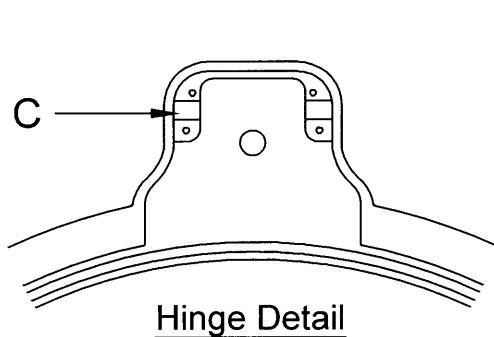

Fig. 1
5. After removing the existing cover, lay the pin in the hinge slot-(C) (See Figure 1).
11. Use Anti-Seize compound in the hinge slot-(C) area (See Figure 1).